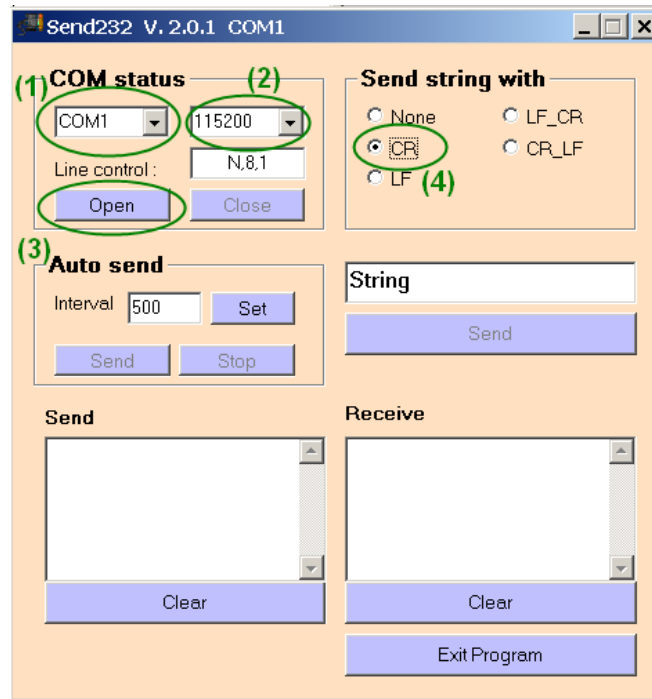

Figure 37: Send232 Utility with the required COM port settings
- Start the test utility “Send232” (Figure 37).